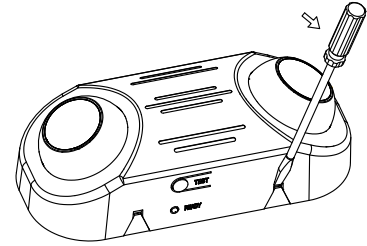

Fig 1
1. Use flat blade screwdriver insert the two slots and pry off front cover from back plate (see Fig 1).